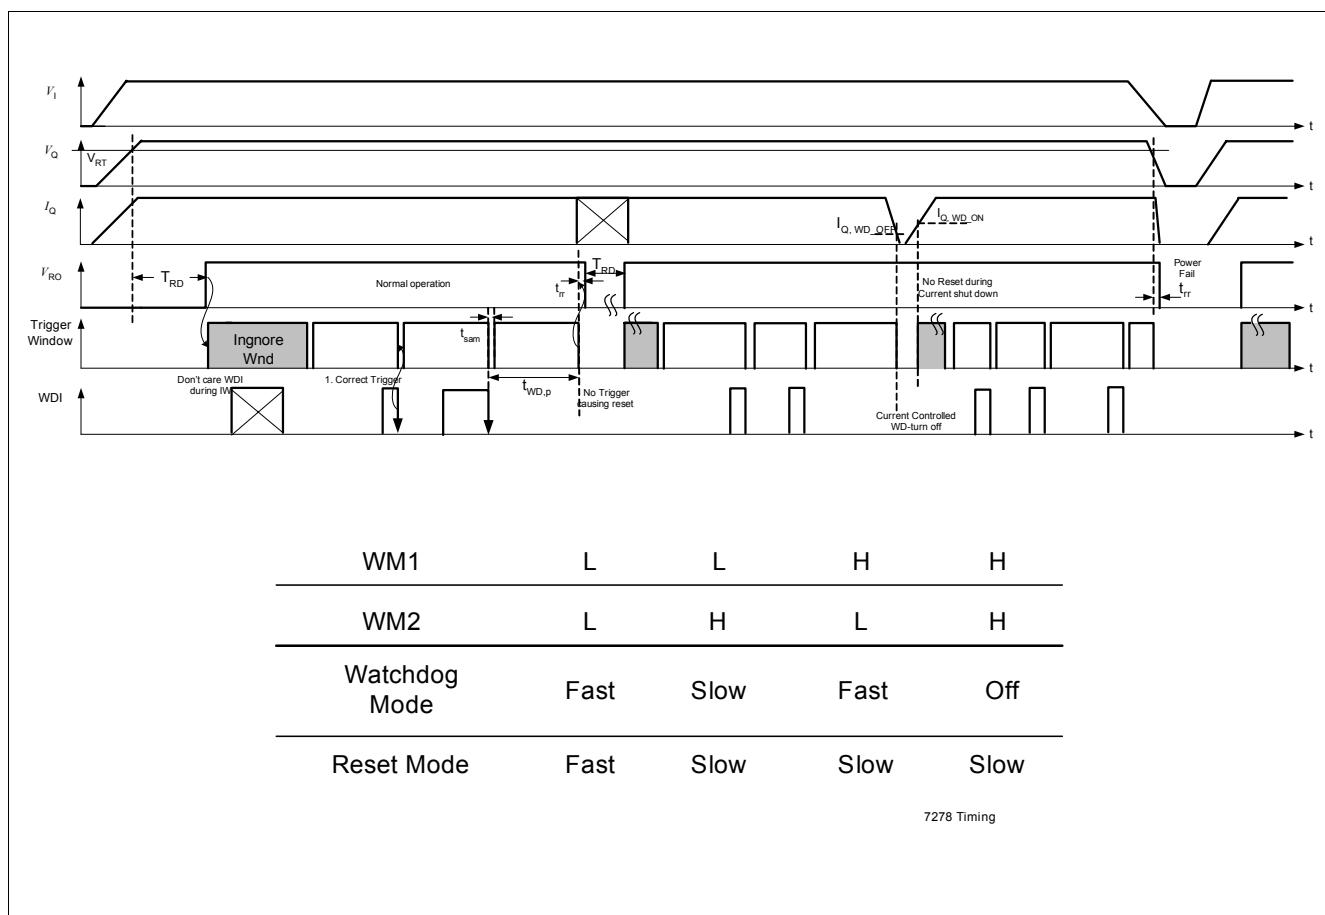

Figure 4 Watchdog Timing Diagram, Watchdog and Reset Modes
The watchdog uses a fraction of the charge pump oscillator's clock signal as timebase. The watchdog timebase can be adjusted using the pins WM1 and WM2 (see Figure 4). The watchdog can be turned off setting WM1 and WM2 to high level. The timing values used this text refer to typ. values with WM1 and WM2 connected to GND (fast watchdog and reset timing).
Figure 4 shows the state diagram of the watchdog (WD) and the mode selection. After power-on, the reset output signal at the RO pin (microcontroller reset) is kept LOW for the reset delay time T_{RD} of typ. 16 ms. With the LOW to HIGH transition of the signal at RO the device starts the ignore window time t_{CW} (32 ms). Next the WD starts the Watchdog Period (time frame within a trigger at WDI must occur). From now on the timing of the signal on WDI from the micro controller must correspond the WD-Period $t_{WD,p}$ correspondent the electrical characteristics and based on the setting on the WM pins. A Re-Trigger of the WD-Period is done with a HIGH-to-LOW Transient at the WDI-pin within the set $t_{WD,p}$.